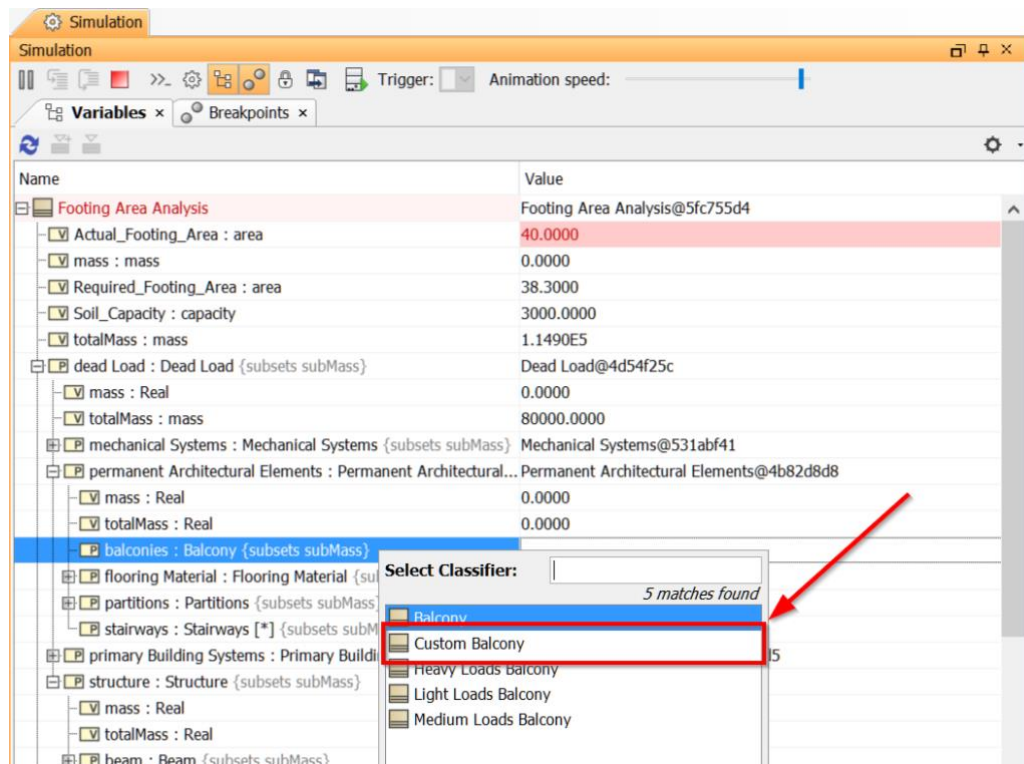
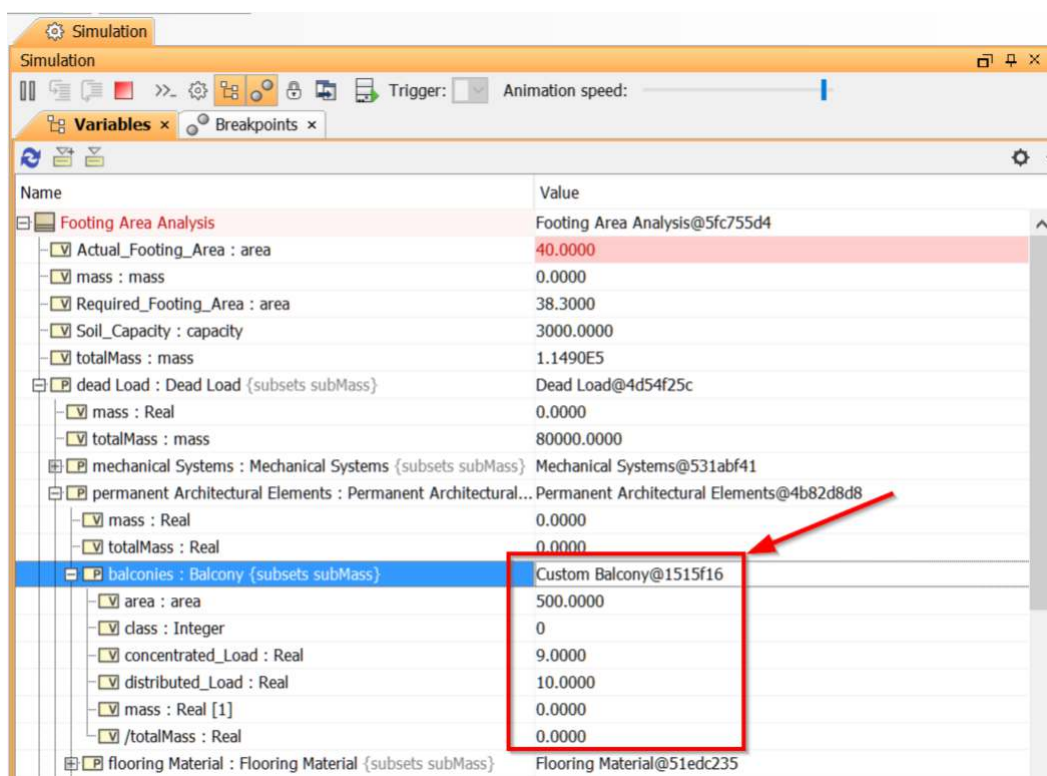

Figure 12: Selecting Required Library Block for Specific System Analysis
Figure 13: Selected Block Characteristics are Automatically Used in Analysis with the Ability to Modify Them
We can reuse Library elements in multiple projects as-is, as read-only, or by inheriting from them and customizing (read-write (Figure 12. (4)). Figure 13 shows how we can select a typical or custom balcony for analysis.